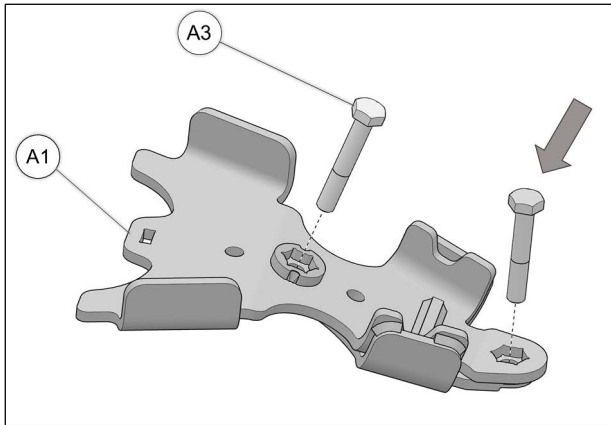

Fig. 12
4. Insert 60mm bolt just removed from stabilizing arm in front anchor bracket (A1) as shown in Fig. 12. Insert supplied M10x65mm bolt (A3) in central bracket hole. Refer to Fig. 12